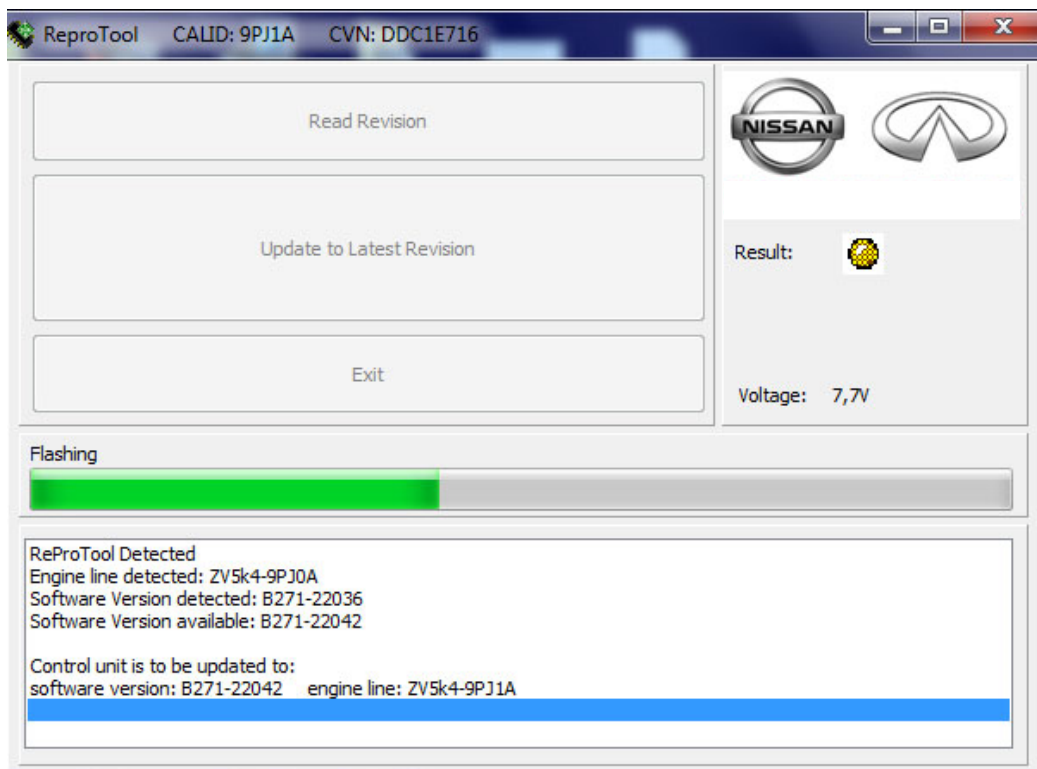

Figure 12
21. The electric IVT control module reprogramming will complete after a few seconds. Reprogramming screen is shown in Figure 12.